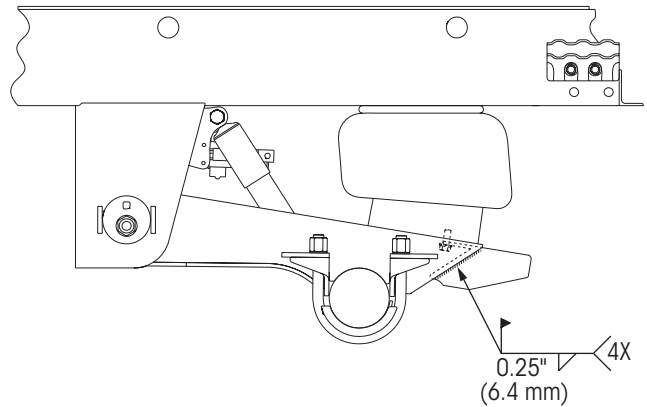

Figure 73: Rear wide beam extension weld specifications
9. Referring to Figure 73, the applicable installation drawing1 and the weld parameters on APPENDIX A: WELDING DETAILS on page 44; weld the extension to the suspension beam as indicated.